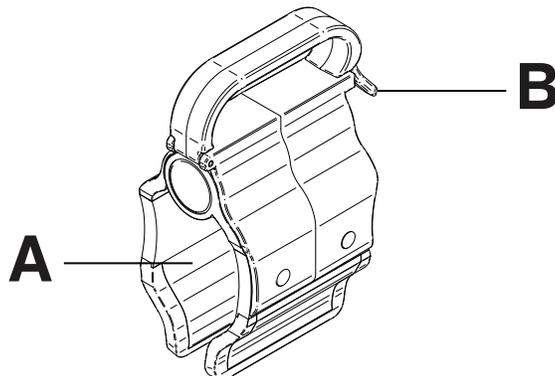

Figure 84: Line management clip
1. Open the clip (A) (Figure 84 on page 95).
1. Raise the clip prong (B) (Figure 84 on page 95).